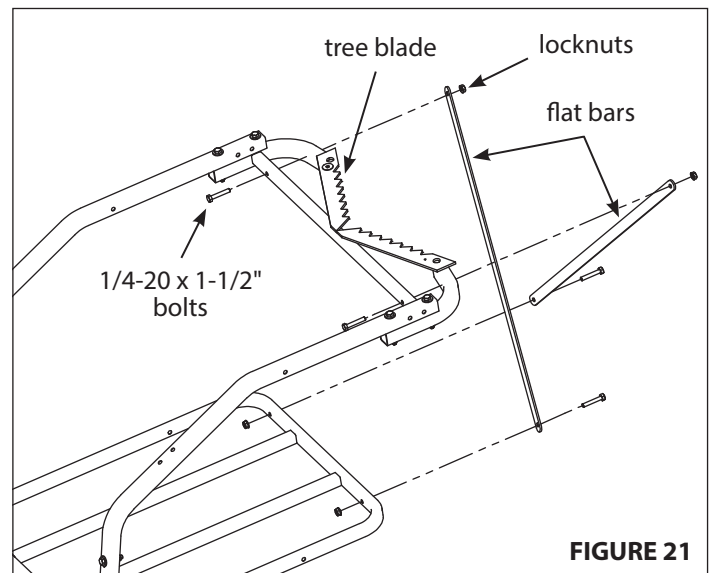

FIGURE 21
4. Attach the flat bars (18706) to the tree blade and platform weldment. Secure parts together using (4) provided 1/4-20 x 1-1/2" bolts and locknuts. **SEE FIGURE 21.**